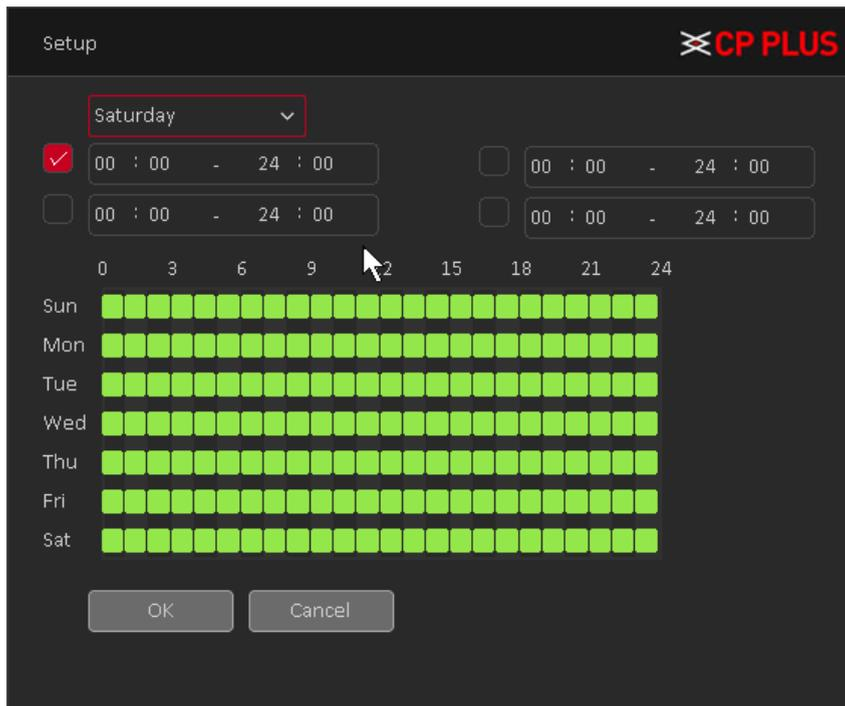

Figure 4.13
- ✓ **[Period]** User can also set the alarm time from Monday to Sunday every day 4 time periods, other time will not trigger motion detection alarm information. See Figure 4.13